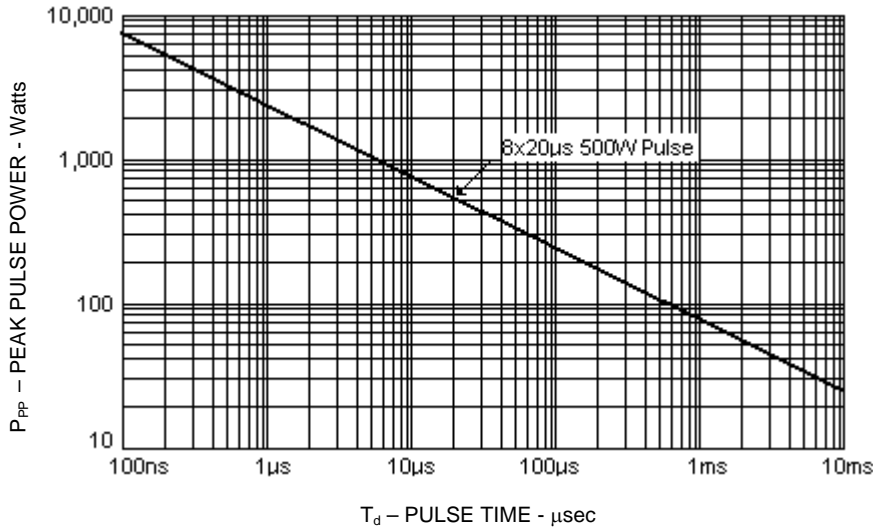

FIGURE 1
- Peak Pulse Power: 500 Watts (8/20 μsec, Figure 1)